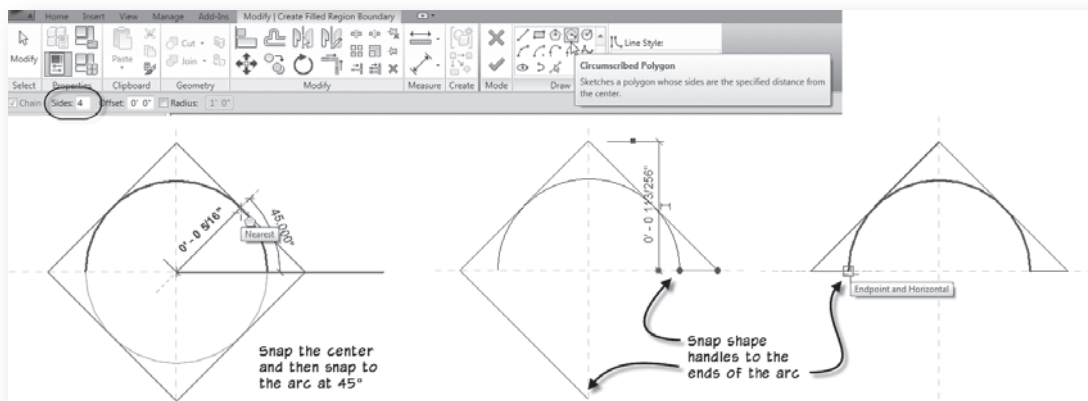

FIGURE 10.31 Draw the triangular shape with a 4-sided polygon
- Draw out the radius at a 45° angle and snap it to the arc (see the left side of Figure 10.31).
- Repeat on the other side (see the right side of Figure 10.31).